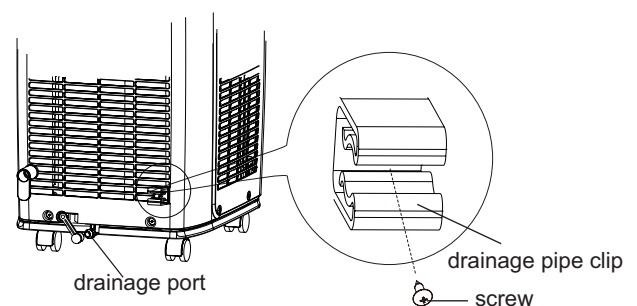
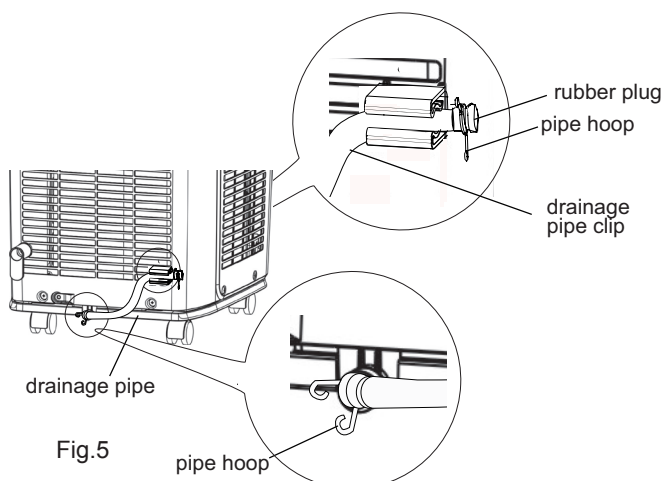

Fig.4
Fig.5
- (2) Fix the drainage pipe clip on the right of rear side plate near drainage port with a screw.(As show in Fig.4)
- (3) Put the drainage pipe into drainage port and screw it up, and then bind it with pipe hoop.
- (4) Put the rubber plug into the other side of drainage pipe, fix it with pipe hoop and then fix it in the drainage pipe clip.(As show in Fig.5)